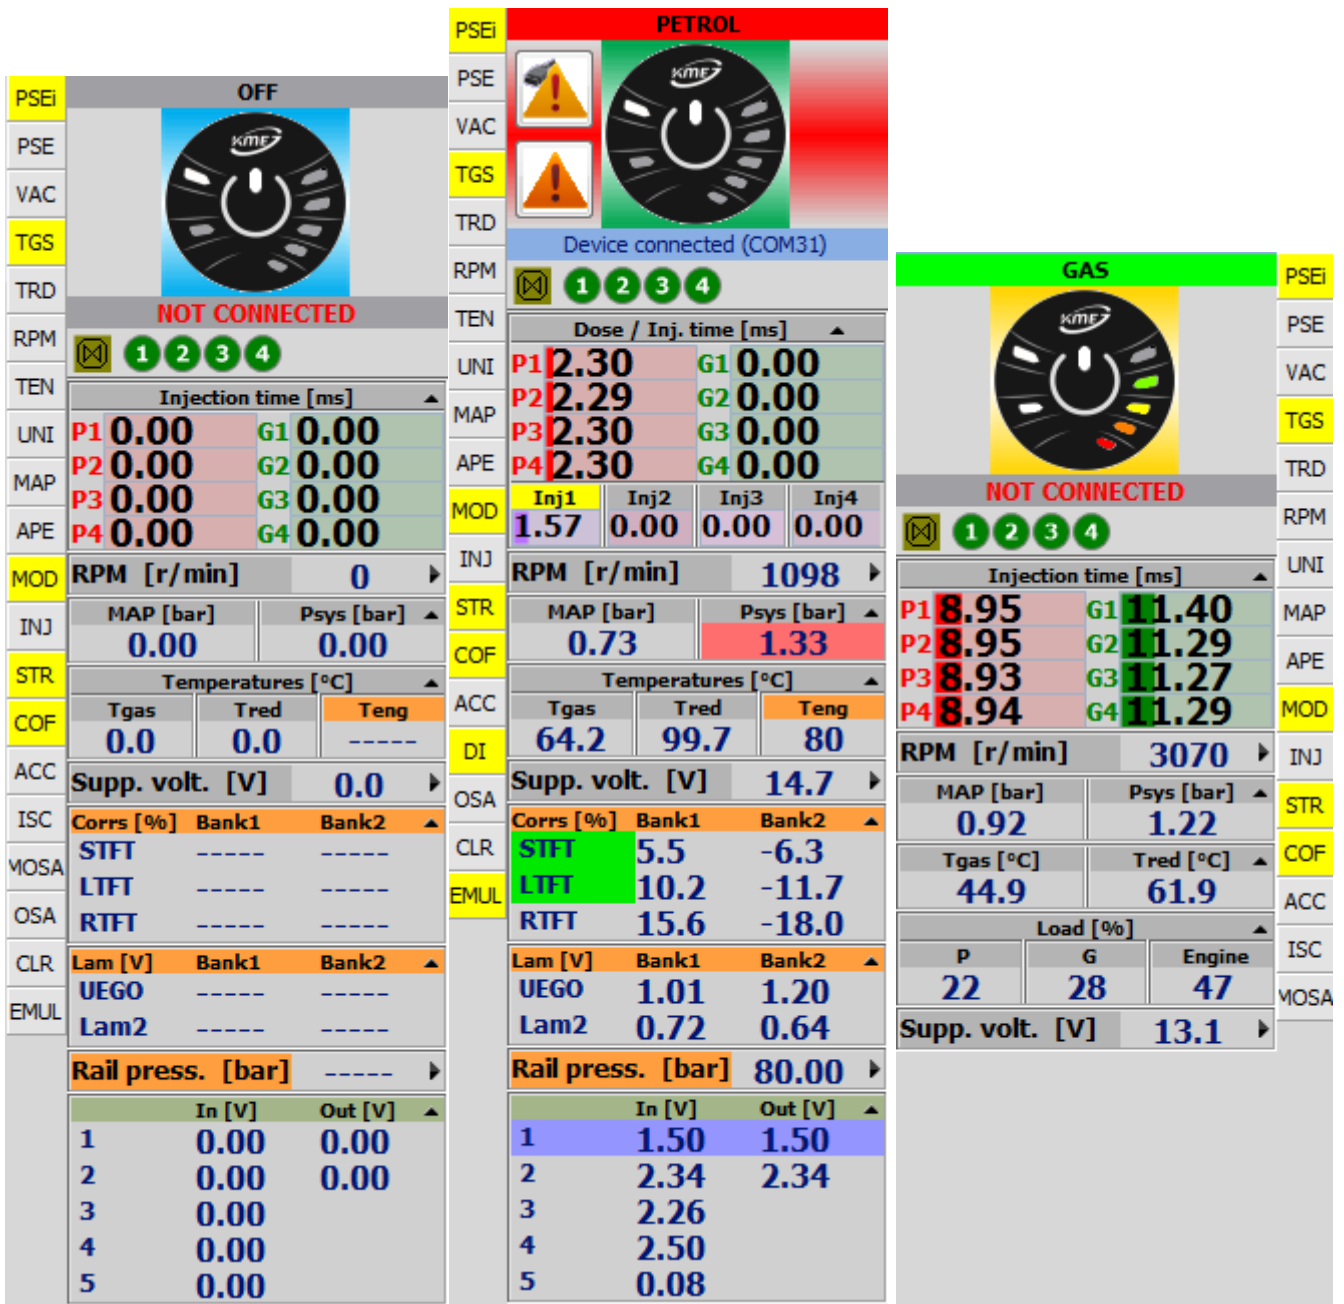

Fig. 2.2 Readings side panel with FUNC bar which indicates activity of chosen functions of gas ECU (from the left seen MAX, DIRECT and SUN)
- **Readings panel** – located on the right or left side of main window (can change in the *MENU/Options*). It contains current reading of the main parameters (**Fig. 2.2**). Values colored in red are beyond the value for proper work of gas injection system. When some parameter is colored in olive it means the value is close to the correct value limit for proper work of system. Vaporizer temp. is red when value is below switch-over level, olive between the temperature of switch-over to gas and 50°C (not all functions are active then). It is blue when over 50°C, because then all of the functions and procedures work properly. **Gas pressure is always red when running on petrol**. Yellow highlighting of the Gas injection time indicates active injector correction for specific injector.